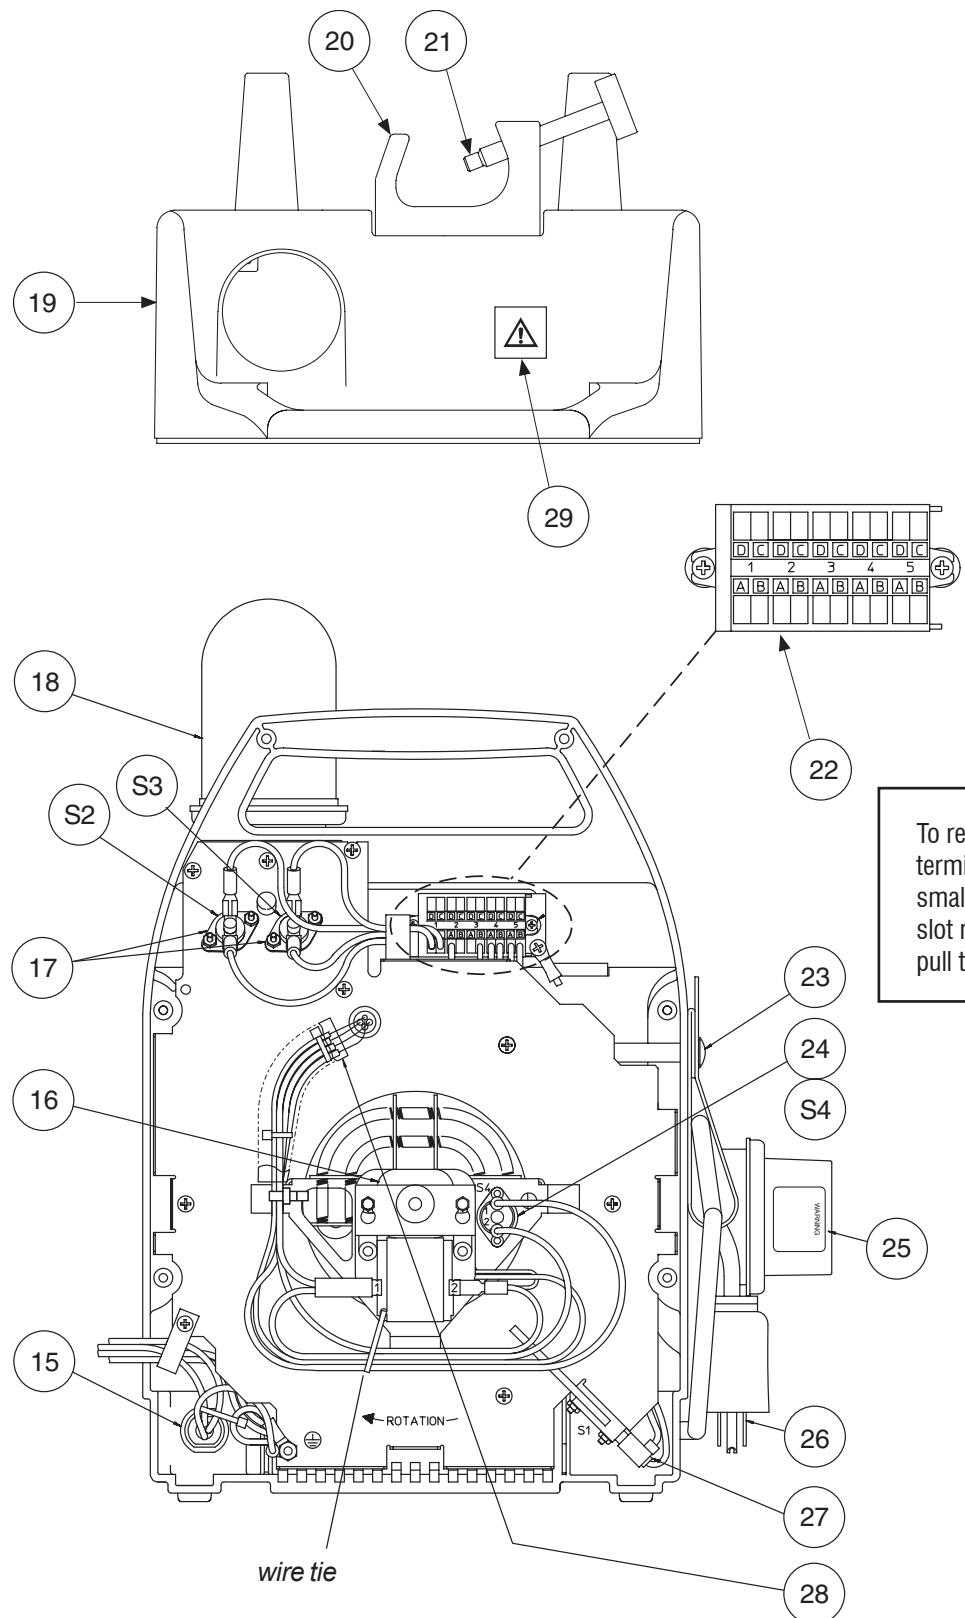

Figure 11 - TC3001 Detail Drawing
8. Cut wire tie holding wiring harness (fig. 11).
4. Unplug the following wires from the PC board assembly at the terminal block (item 23, fig. 11):
(see Figure 11)